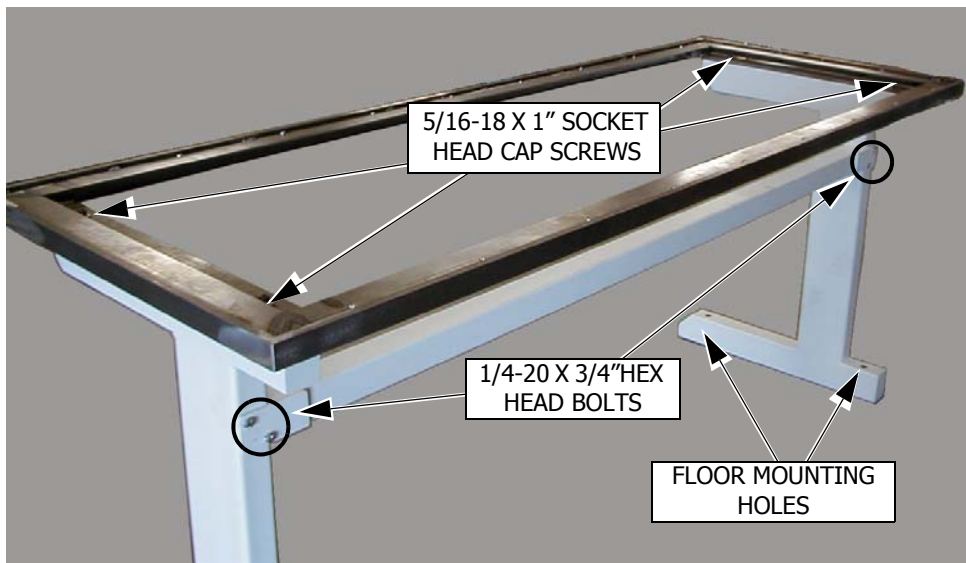

Figure 3-1. QT-720 Table Assembly (Viewed from Rear)
1. Attach the Table Leg Brace to rear side of each Table Legs using the four 1/4-20 x 3/4" hex bolts supplied (see Figure 3-1).